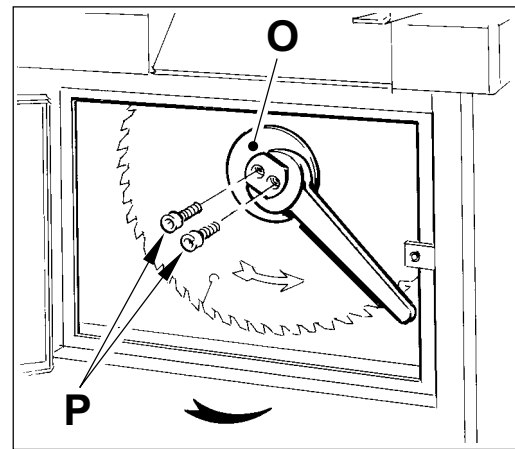

Fig. 4-1 Fitting blades
- Insert the front flange **O** and keep hold of it by meand of the special spanner fig. 4-1.